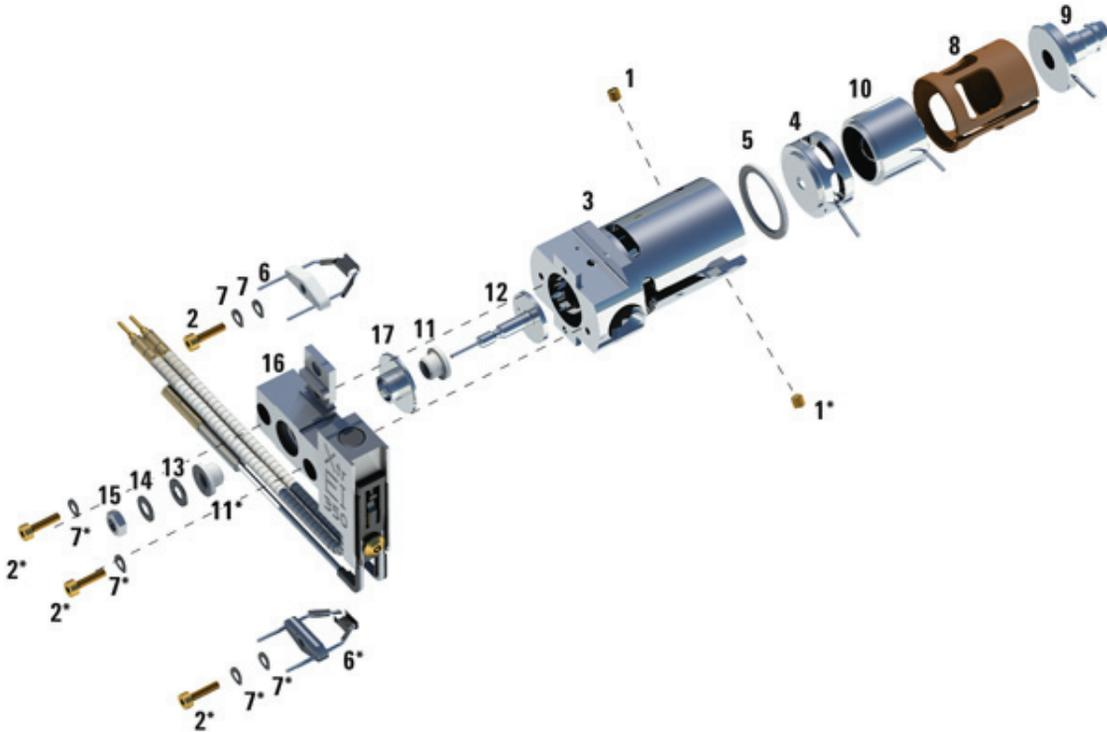

Figure 60 Assembling the EI XTR source
Refer to the exploded parts view Figure 60 and EI XTR parts list Table 22 on page 189 while using this procedure.
- 3 Insert the entrance lens and ion focus lens into the insulator in the order shown in Figure 60 on page 189.
Table 22 Parts list for EI XTR source (Figure 60)
Table 22 Parts list for EI XTR source (Figure 60) (continued)